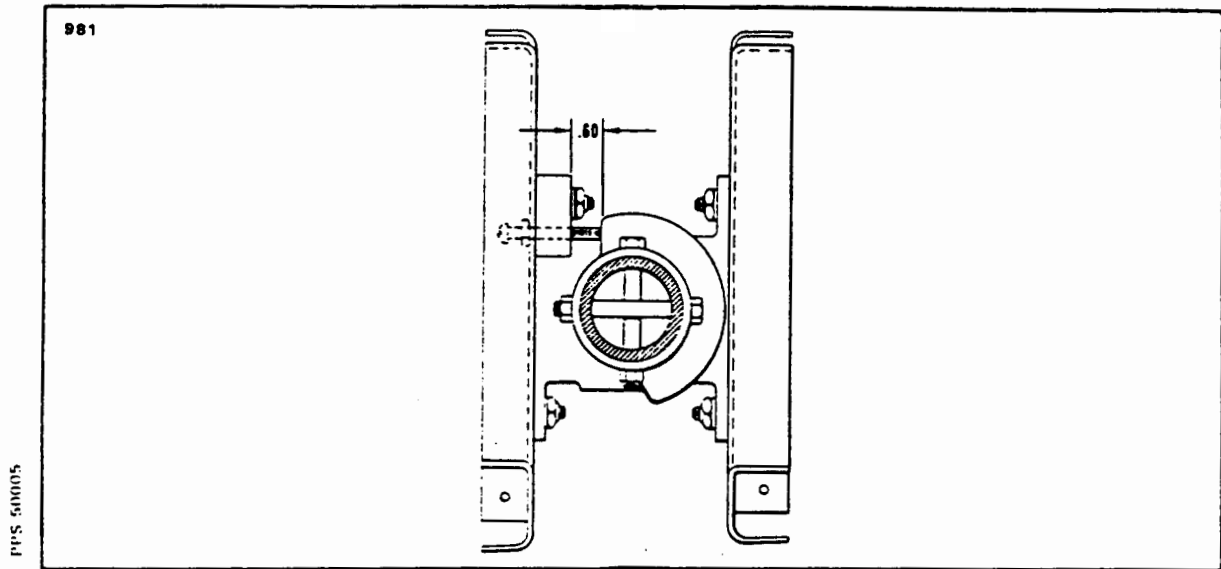

Figure 5-19. Flap Step Adjustment
- c. To adjust the flap up stop and step lock, loosen the jam nut of the right torque tube stop screw, located in the floor opening along the outer end of the flap torque tube, and turn the stop screw to obtain approximately .60 of an inch between the stop fitting and the bearing block as measured along the top side of the screw. (Refer to Figure 5-19.) It may be necessary to loosen the adjustment screw of the left stop.